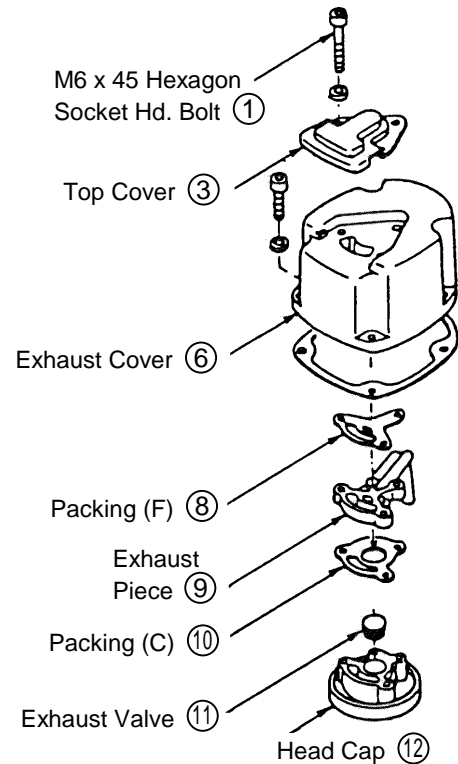

Fig. 11 Disassembly of main body, upper part:
- Remove the Exhaust Cover ⑥ as described in section 1-1-(2).
- Loosen the three M6 x 45 Hexagon Socket Hd. Bolts ① and, as illustrated in Fig. 11, remove the Head Cap ⑫, Exhaust Valve ⑪, Exhaust Piece ⑨, Packing (C) ⑩ and Packing (F) ⑧.